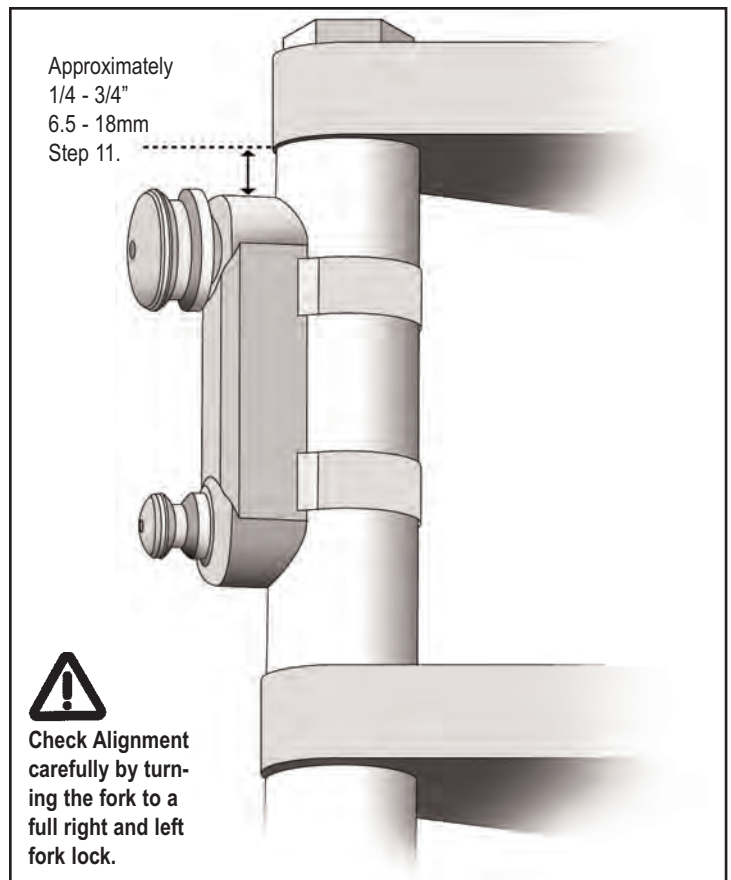

Figure 4.
11. Adjust top edge of Mount Cup to be 1/4 - 3/4" (6.4 - 18mm) from the upper triple clamp. **See Figure 4.**